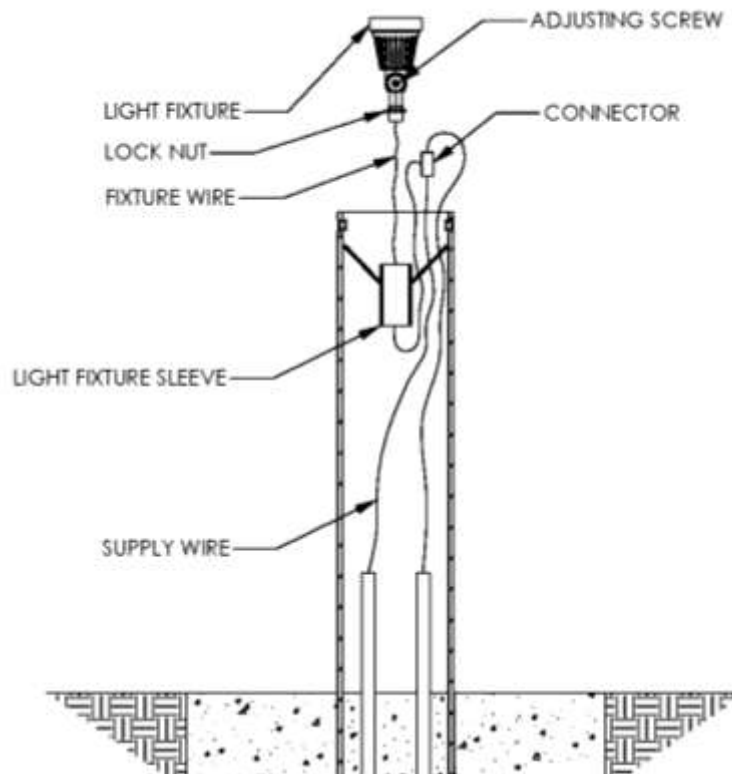

Figure 2. - Modifying low voltage lighting
3. Cut the fixture wire and seal the end of the wire on the supply side with a suitable insulating product (see Figure 2).